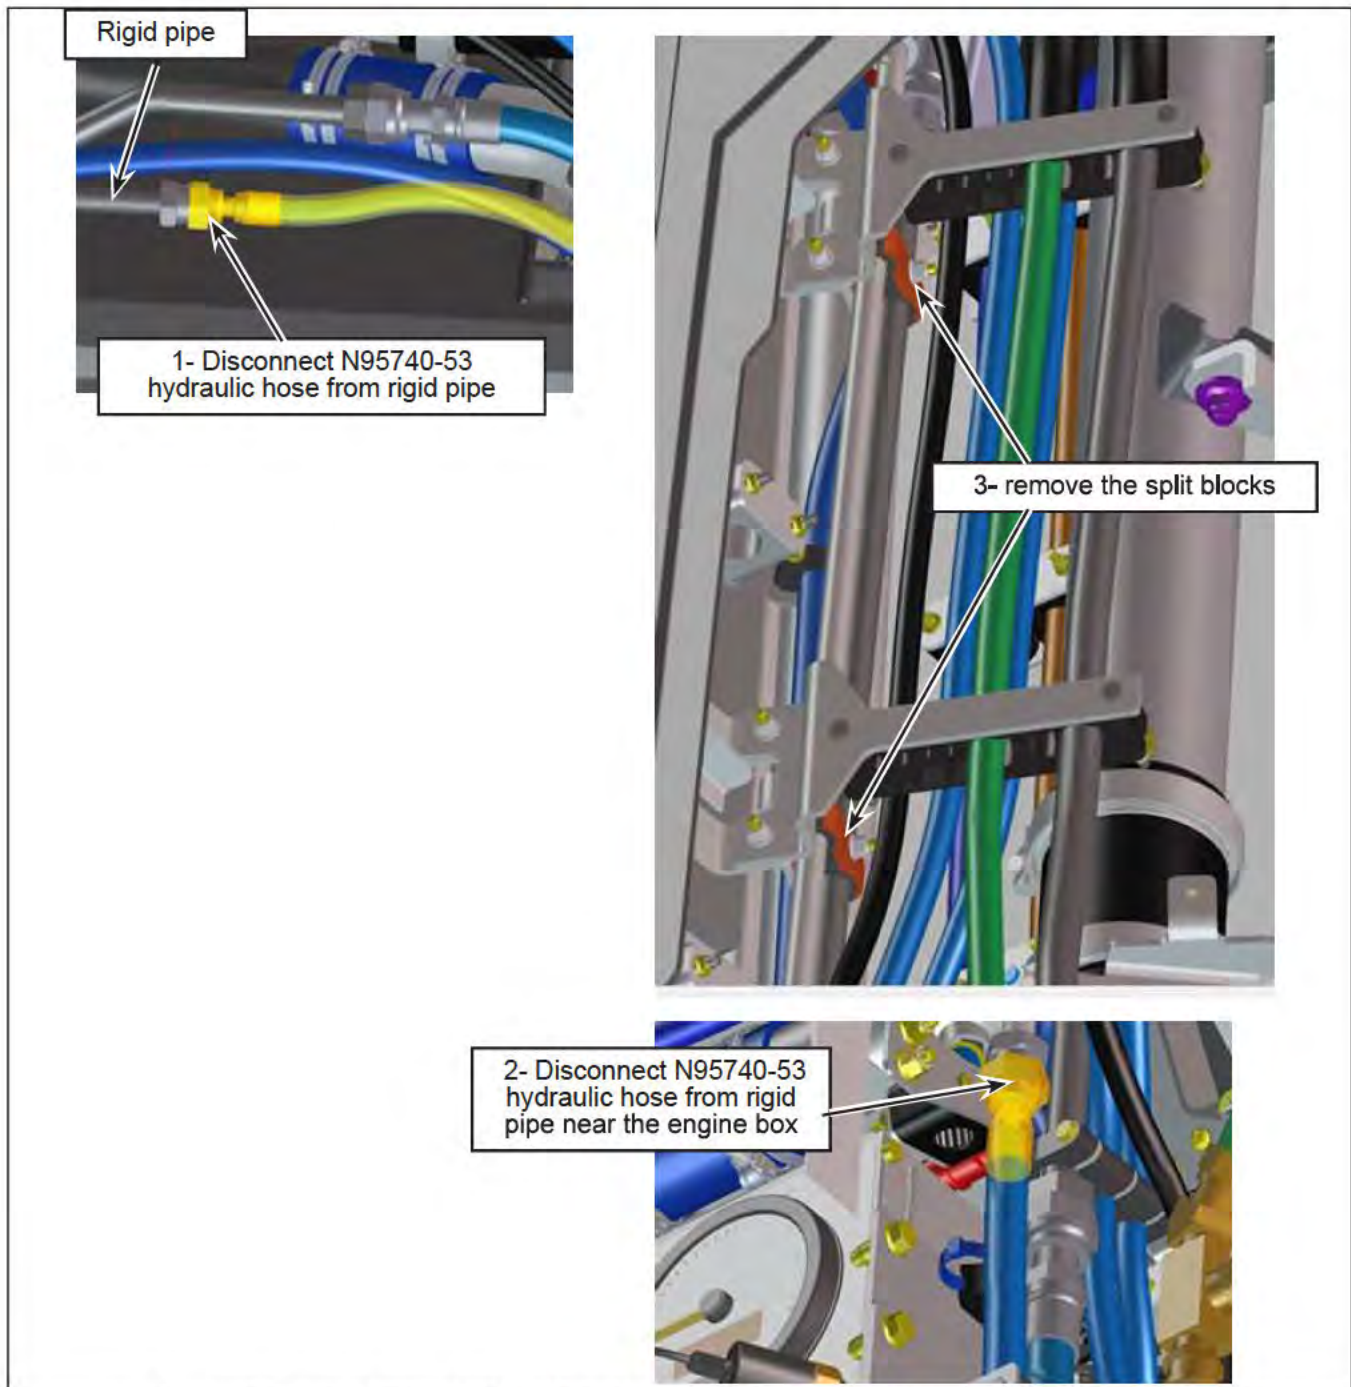

Figure 6 - Removal Steps for N95740-53 Hydraulic Hose Installed in Radiator Compartment.
- 2.8. Disconnect the N95740-53 hydraulic hose from the rigid pipe in the radiator compartment. See Figure 6.
- 2.9. Disconnect the hydraulic hose from the rigid pipe near the engine control box. See Figure 6.
- 2.10. Remove the split blocks fixing the rigid pipes in the rear curb side portion of the engine compartment. Retain the split blocks and hardware. See Figure 6.